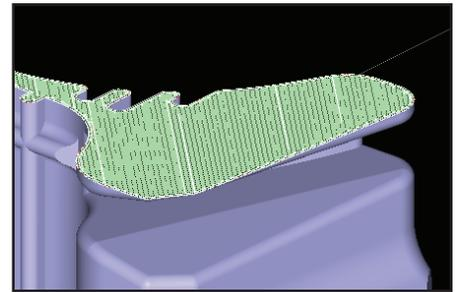

Figure 41: Part with Solid-normal fill.
5.2.1. Solid-normal (Figure 41)